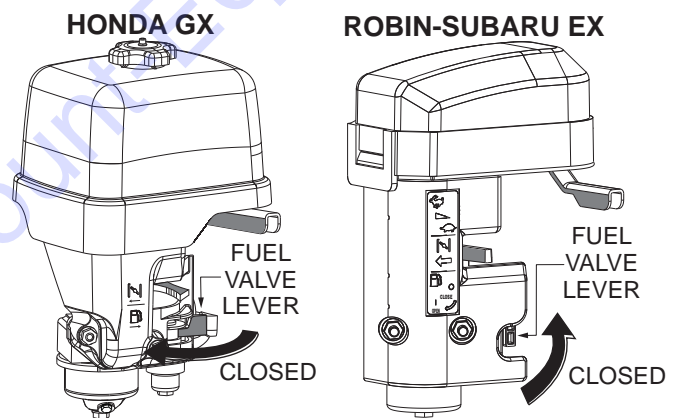

Figure 45. Fuel Valve Lever (Closed)
4. Place the fuel valve lever in the **CLOSED** position (Figure 45).